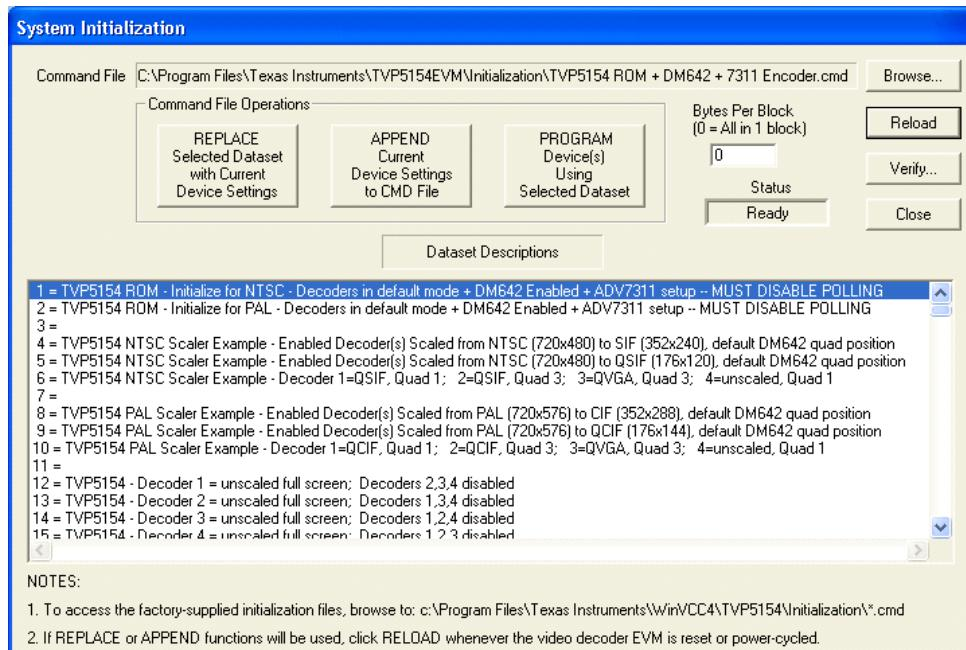

Figure 8. WinVCC – System Initialization
8. In the System Initialization Window (see Figure 8), click the "TVP5154 ROM – Initialize for NTSC..." or "TVP5154 ROM – Initialize for PAL..." dataset in the window and then click the PROGRAM Device(s) Using Selected Dataset button to initialize the TVP5154EVM.